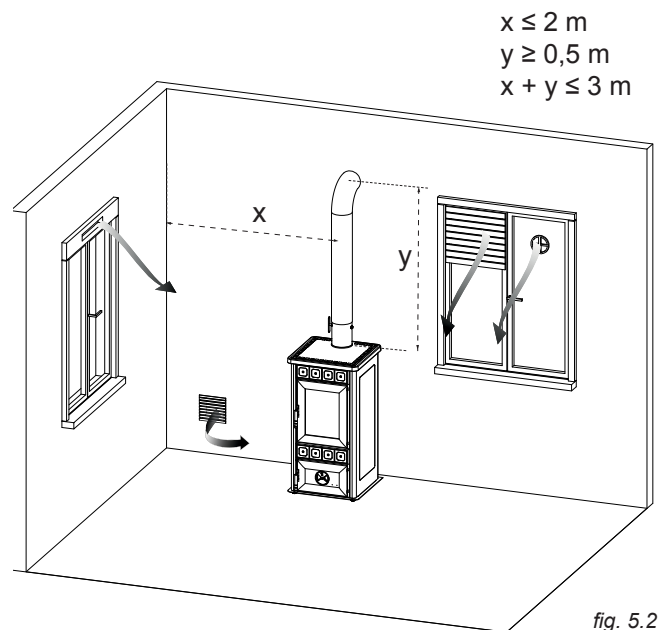

fig. 5.2
- In order to connect the stove to the chimney you may perform maximum 3 changes of direction that should not exceed 90°, the fume duct should not exceed 2 metres in length and 3 metres in total (*fig.5.2*).